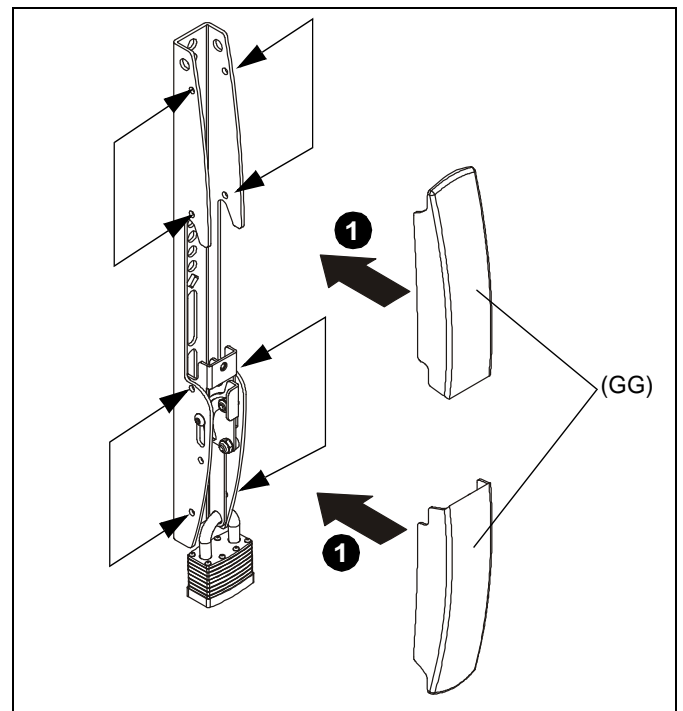

Figure 13
1. Install four interface bracket covers (GG) over the top and bottom of both interface brackets. (See Figure 13)
NOTE: Be sure to line up tabs inside the bracket covers with holes on sides of interface brackets. (See Figure 13)